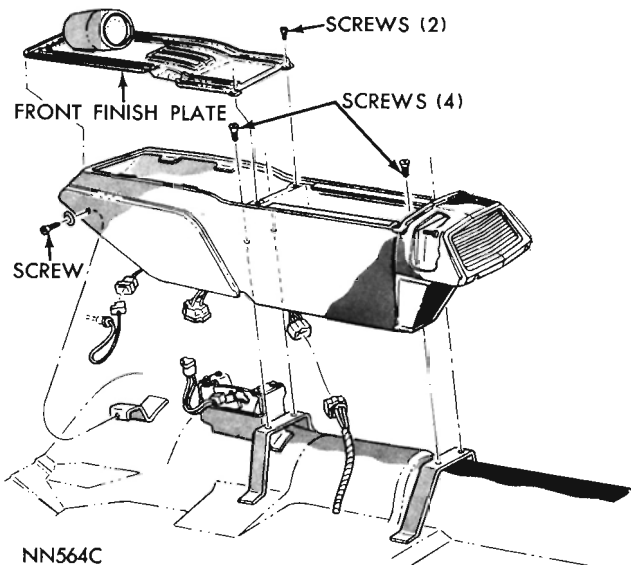

Fig. 9—Removing or Installing Console (Satellite and Fury Models)
(3) **Satellite and Fury Models:** Remove two screws from rear end of upper finish plate (Fig. 9). Raise rear end of plate and work it rearward to disengage from console, disconnect dial lamp wire connectors. On some models, remove console lid and/or center arm rest to gain access to the two upper finish plate screws.